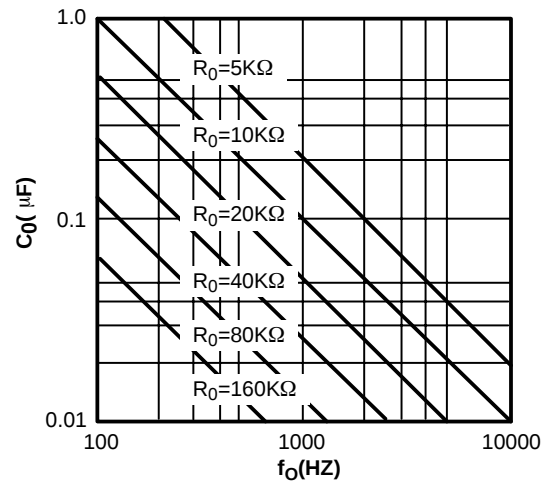

Figure 6. VCO Frequency vs. Timing Resistor
VCO Timing Capacitor (Pins 13 and 14): VCO frequency is inversely proportional to the external timing capacitor, C_0 , connected across these terminals (see *Figure 6*.) C_0 must be non-polar, and in the range of 200pF to 10 μ F.
- Calculate value of C_0 from design equation (1) or from *Figure 6* $f_S = f_O$: